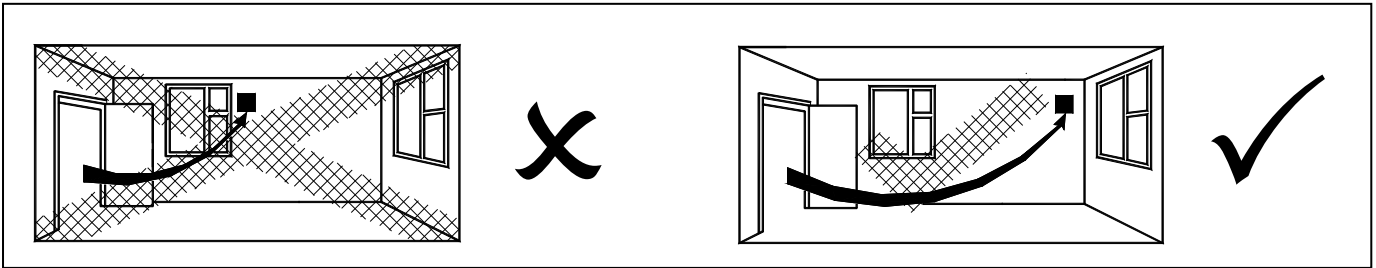

Fig. 1.
2. Removing the grille. Firstly remove the front cover by carefully pulling each corner of the front panel until it is free to be removed from the inner grille (Fig 1). Unscrew the two screws at the bottom of the inner grille. The screws will remain in the inner grille but will be loose when the grille is ready to be removed (Fig 1). Lift the inner grille from the bottom edge ensuring not to damage the sensor cable (TM model only) attached to the front assembly and Base Housing (Fig 6).
5. Removing the grille. Firstly remove the front cover by carefully pulling each corner of the front panel until it is free to be removed from the inner grille (Fig 1). Unscrew the two screws at the bottom of the inner grille. The screws will remain in the inner grille but will be loose when the grille is ready to be removed (Fig 1). Lift the inner grille from the bottom edge ensuring not to damage the sensor cable (TM model only) attached to the front assembly and Base Housing (Fig 6).